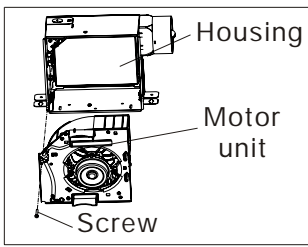

Fig.17
2. Mounting the motor unit into the housing, and fastness with one M4x16 screw. (Fig.17)